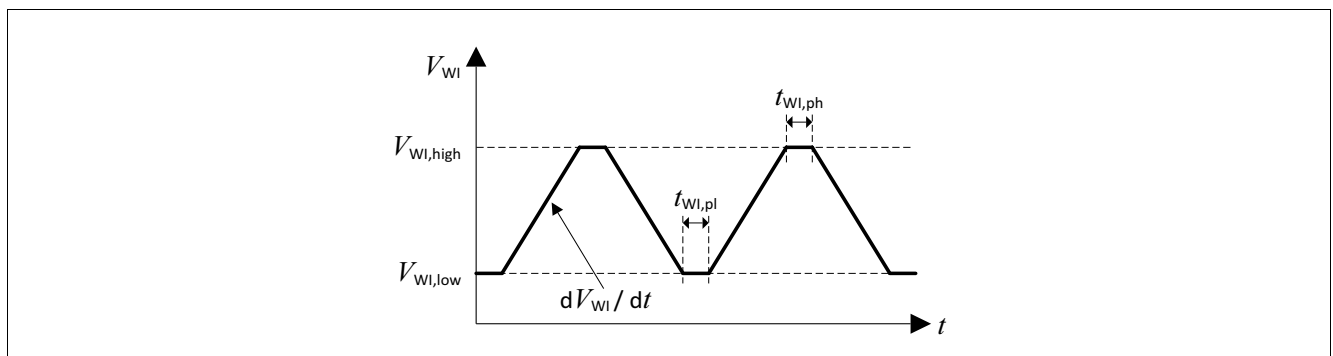

Figure 10 Test Pulses Watchdog Input WI
The watchdog is triggered by a falling edge at the watchdog input pin "WI". The amplitude and slope of this signal has to comply with the specification (Table "Watchdog Input WI" on Page 26). For details regarding test pulses, see Figure 10 "Test Pulses Watchdog Input WI" on Page 25.
- 2) For details on applied test pulse, see Figure 10